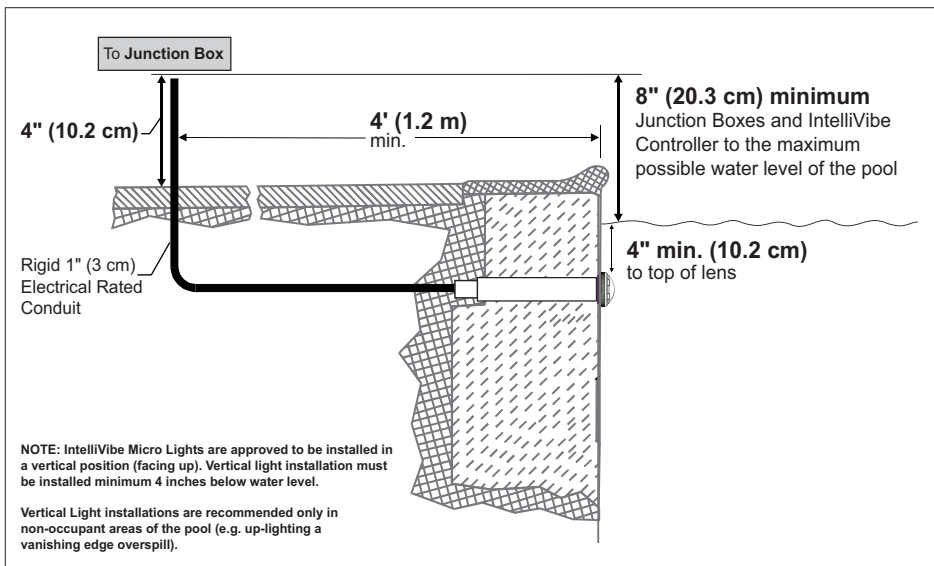

Figure 1
**BEFORE STARTING:** The following information describes the tasks that must be completed by the electrician *before* the light wall fitting is installed. See Figure 1.
- The Junction Box, PS300, and the IntelliVibe controller are located at least 4 inches (10.2 cm) above ground level or 8 inches (20.3 cm) above maximum water level, whichever is higher. The Junction Box, PS300, and the IntelliVibe controller must be at least 4 feet (1.2 m) from the edge of the pool. See Figure 1.
See *Figure 1* on page 2 for junction box installation in the USA.